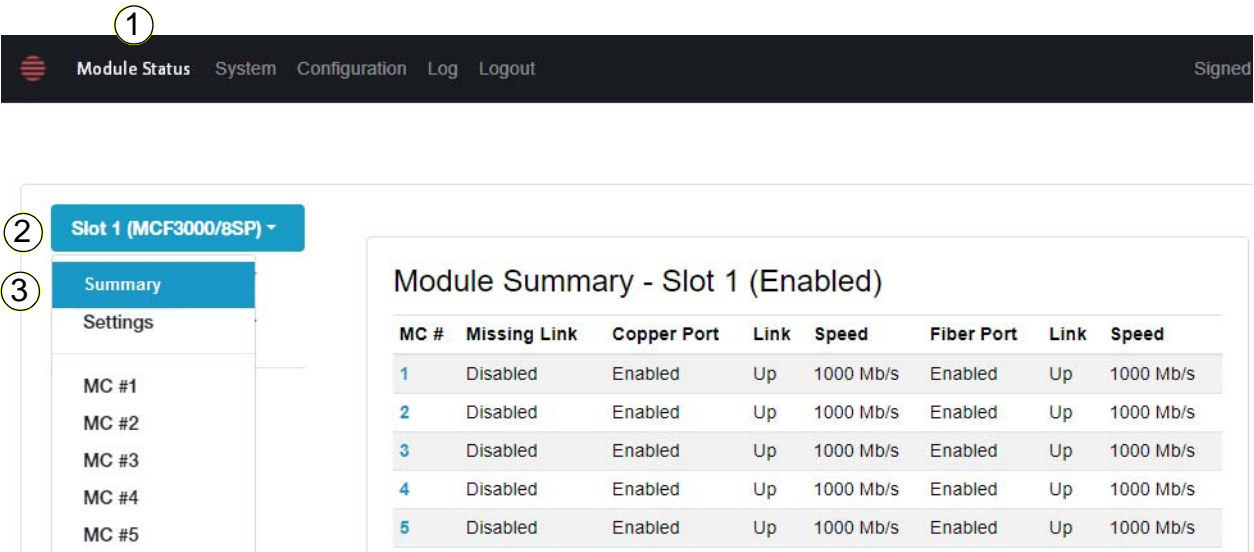

Figure 31. Slot Module Summary Window - Displaying Port Status Summary
This procedure explains how to display status summaries of the copper and fiber optic ports on the media converter modules. The information includes the status of port links and port speeds. The steps are illustrated in Figure 31 and provided in the following procedure:
2. In the **Slot # (Module)** menu, select the chassis slot that has the media converter module with the ports you want to view. In Figure 31, the media converter module in slot 1 is selected. You can view only one module at a time.